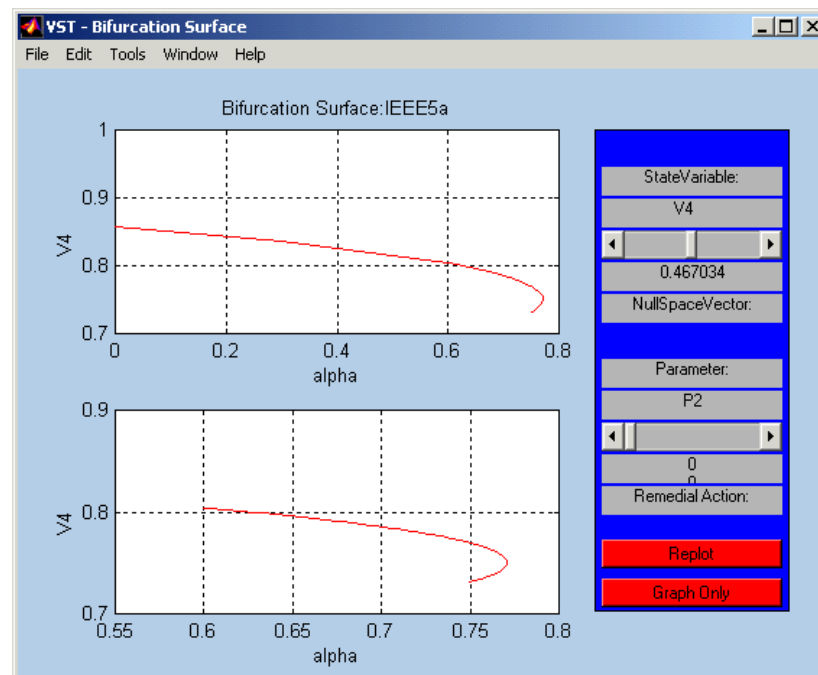

Fig. A.19 A typical result of the static bifurcation analysis
- The resulting nose curve is depicted in Fig. A.19. Any of the bus voltages or phase angles can be plotted by using sliders in that window.